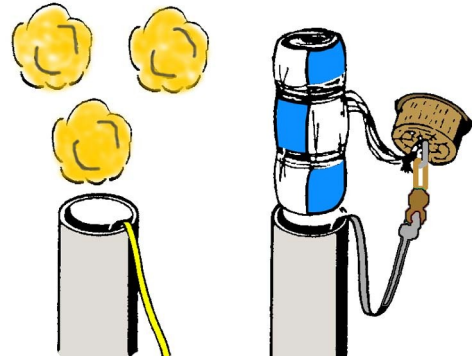

Figure 11
- **Step 23** When packing the parachute into the body tube, insert several balls of crumpled Recovery Wadding (the sheet kind), or at least 2" of shredded cellulose insulation, into the tube and lightly tamp it down until it is just above the motor tube. See Fig. 11. Do not pack this material tightly! The purpose is to provide a protective gas seal between the motor and the recovery device(s). Whichever material you choose, it must be able to come out at deployment, otherwise the recovery system will fail and the model will crash.